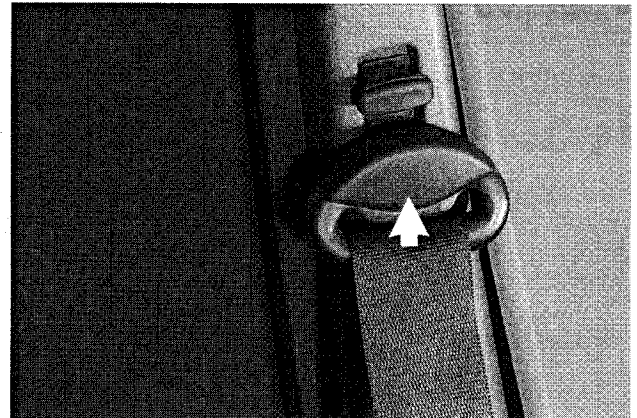

Fig. 5. B-pillar seat belt guide nut trim (arrow).
3. On 4-door and coupe models: Remove plastic trim cover from B-pillar (rear door jamb pillar) sliding seat belt guide. Remove nut and guide loop. See Fig. 5.